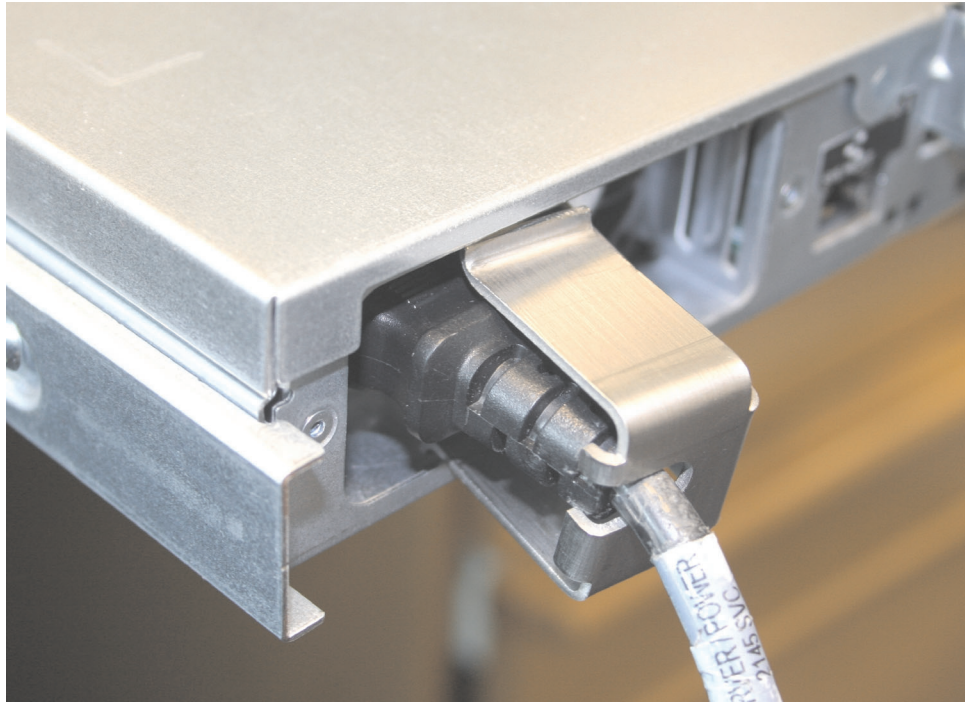

Figure 31. Installing the SAN Volume Controller 2145-8A4 cable retention bracket
5. Place the bottom lip of the retention bracket in the node chassis as shown in Figure 31 on page 44. Turn the bracket at a slight angle, squeeze the top and bottom together, and position the top lip in place behind the chassis back plate.